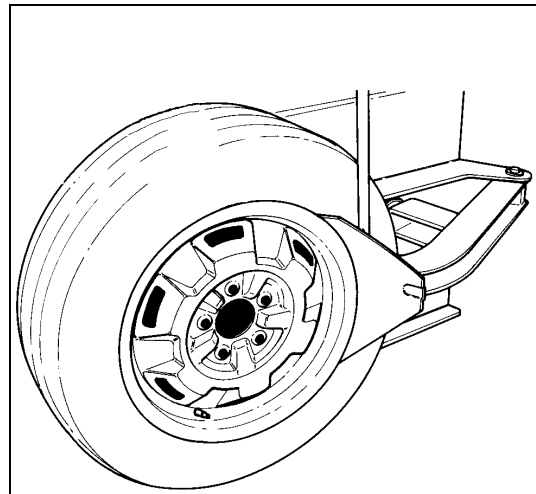

Fig.12
**B.** Break both beads. Pay extra attention during this operation as it is easy to mistakenly keep your foot on the bead breaking pedal too long. This could result in immediate bead damage (Fig.12)